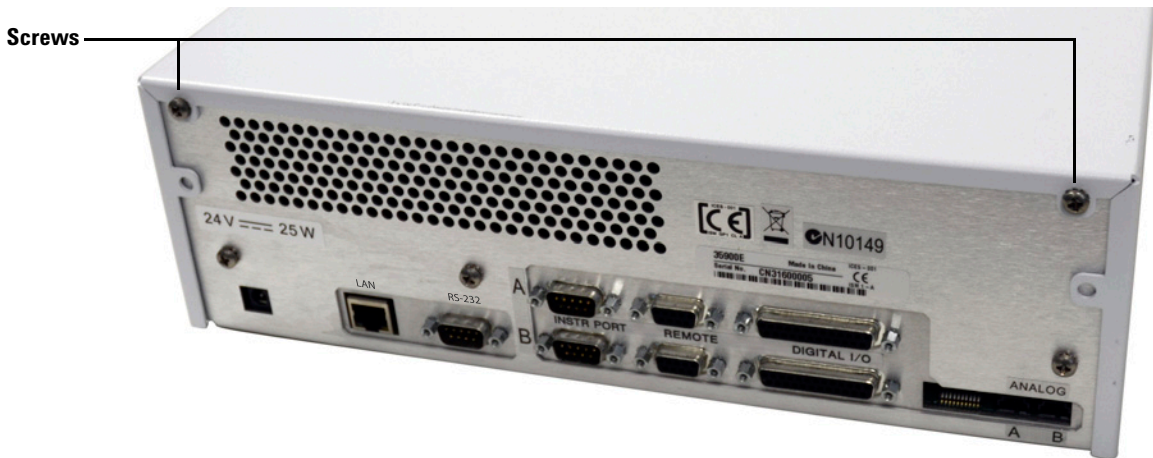

Figure 11 Removing the top cover
- 4 Remove the two screws attaching the top cover to the rear panel (see Figure 11).
- 1 Remove the top cover (see Figure 11 on page 44).